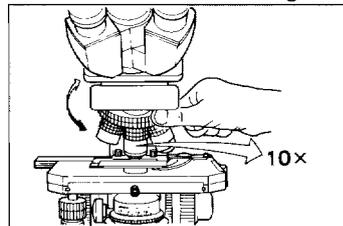

Fig.3-4
- 4) Revolve the revolving nosepiece to put the 10X objective into the optical path. Properly turn the revolving nosepiece so it fits into position (Fig. 3-4).